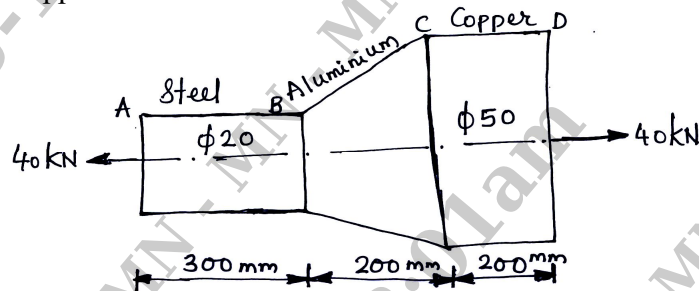

Fig. Q1(c)
- c. A stepped bar is subjected to an external loading as shown in Fig. Q1(c). Calculate the change in the length of bar. Take $E = 200\text{GPa}$ for steel, $E = 70\text{GPa}$ for Aluminium and $E = 100\text{GPa}$ for copper. (10 Marks)